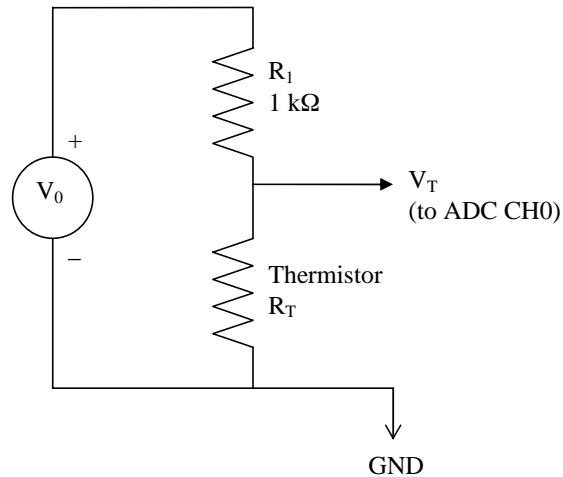

Figure 8.2: Thermistor circuit
Mercury thermometers are simple, accurate, and reliable devices. Unfortunately, a mercury thermometer does not readily lend itself to computer automated temperature measurement and control. Instead, we will use a thermistor. A thermistor is a device whose electrical resistance depends strongly on its temperature. Let's first set up a circuit, shown in Fig.8.2, to measure temperature using a thermistor. Basically, the voltage that is read at  $V_T$  depends on the ratio of the fixed resistance,  $R_1$ , and the thermistor resistance,  $R_T$ . If the two happen to be equal, then  $V_T$  will be exactly half of the power supply voltage,  $V_0$ . If the thermistor resistance goes down or up, then the voltage  $V_T$  will also go down or up.
1. The thermistor should already be mounted in the aluminum block that you used in the previous exercise. Using a 5 volt power supply as  $V_0$ , assemble the circuit as shown in Fig. 8.2 on your protoboard.